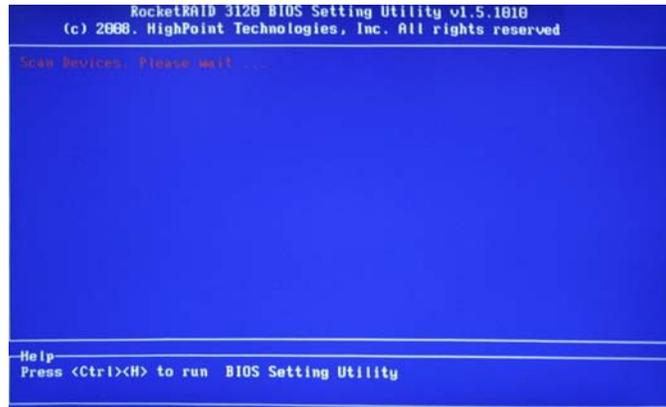

Figure 119. BIOS Setting Utility
1. Press the power button to turn on the NMS server. At the RAID initialize screen, press the **CTRL** and **H** keys at the same time to start the BIOS Setting Utility (Figure 119).